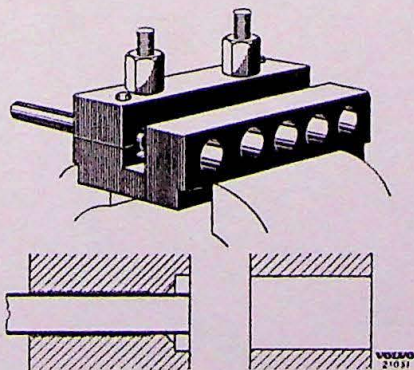

Fig. 10.
3. If the line is made of copper it should be flanged in the normal way but if it should be of steel piping it should be double flanged with SVO 2049. Fit the tool in a vice. Push in the piping until it is flush with the back of the clamp as shown in Fig. 10. Tighten the nuts.